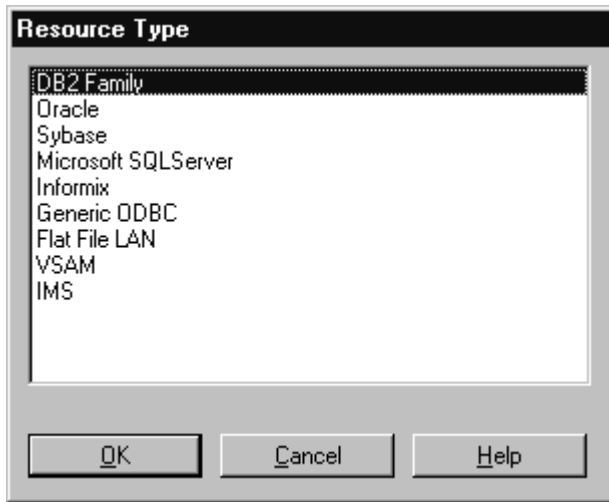

Figure 6. Select DB2 Family from the Resource Type list.
3. In the **Resource Type** list, select **DB2 Family**, as shown in Figure 6.